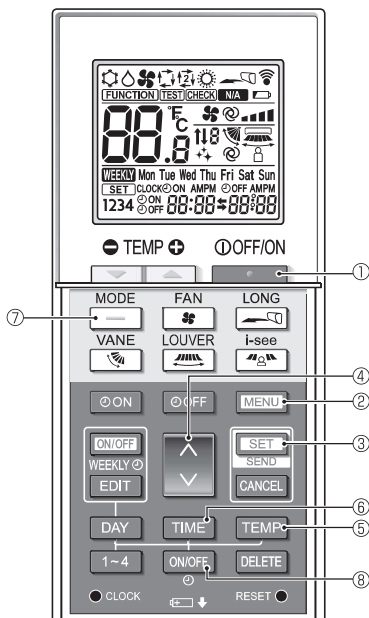

Fig. 7-9
1. Press the **STOP** button ① to stop the air conditioner.
2. Press the **MENU** button ②.
The Function setting screen will be displayed and the function No. ① will blink. (Fig. 7-9)